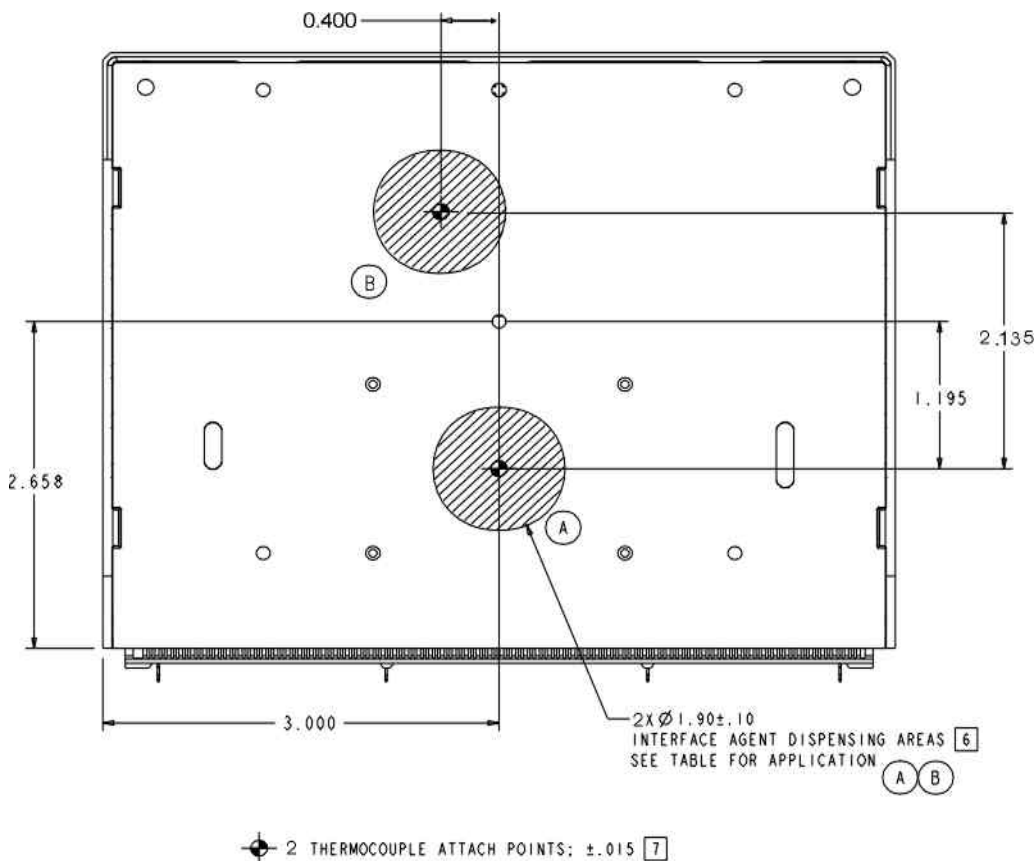

Figure 19. Interface Agent Dispensing Areas and Thermal Plate Temperature Measurement Points
Figure 19 shows suggested interface agent dispensing areas when using either Intel suggested interface agent. System issues in meeting the TPLATE requirements will determine actual user area and interface agent selections.
- Attach each thermocouple bead or junction to the top surface of the thermal plate at the locations specified in Figure 19 using high thermal conductivity cements.